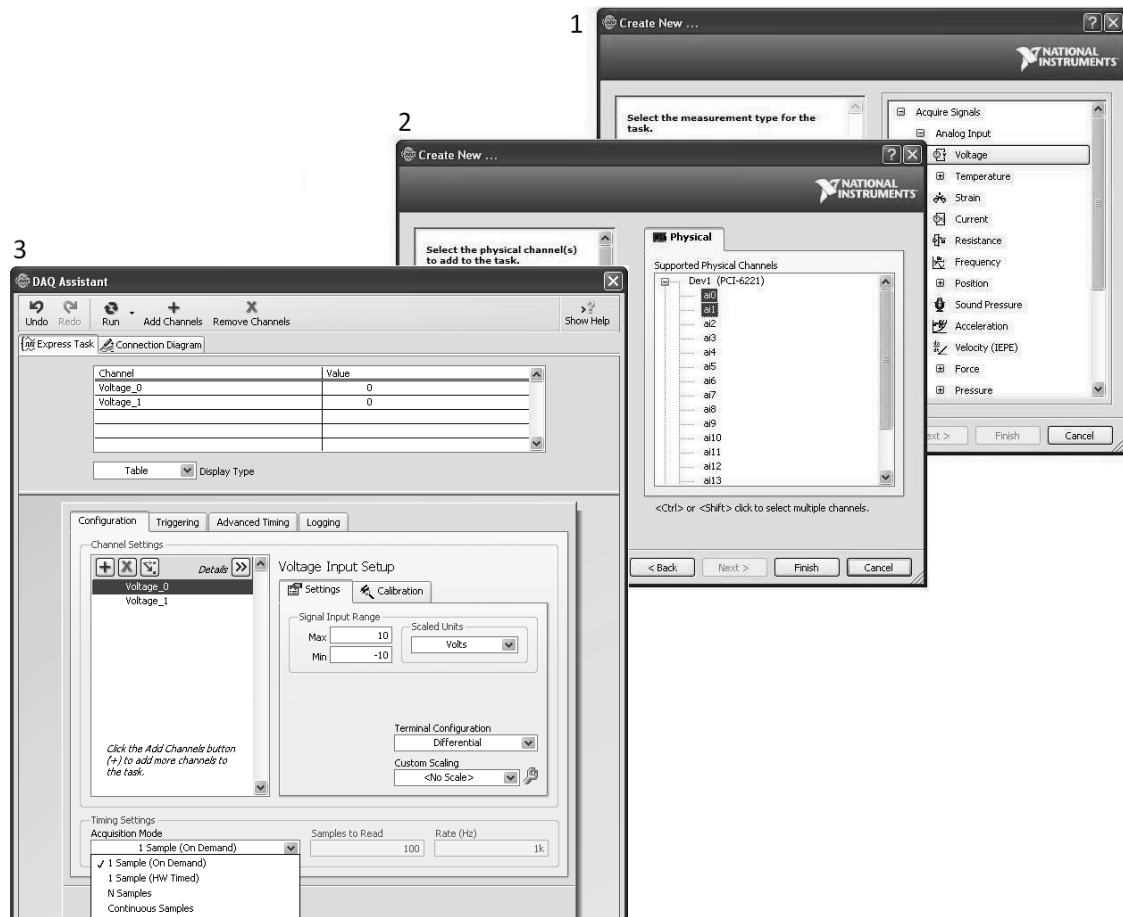

Figure 1.4.4 Using the DAQ Assistant to configure an analog input measurement task
The DAQ Assistant guides the user through a series of windows to configure the data acquisition task as shown for an analog input measurement task in Fig. 1.4.4. The DAQ
Assistant automatically launches when placed in the block diagram. The “Create New...” window sets up the measurement type for the data acquisition task. You select if the data will be acquired or generated for the measurement type (this view is not shown in Fig. 1.4.4). If you expand the list, you can see that analog, digital, and counter modes are available for both “acquire” and “generate.” By further expanding the list, you can see what types of measurements are supported for each mode. For example, the different types of analog input measurements are shown in the first view of Fig. 1.4.4. Once you select the type of measurement you want, for example, a voltage analog input measurement was selected in Fig. 1.4.4, the DAQ Assistant then lists the channels that are available for that type of measurement based on the DAQ board in your computer. This is the second view in Fig. 1.4.4. After you select the channel(s) that you want, a DAQ Assistant window opens, as shown in the third view of Fig. 1.4.4, which allows you to configure the channel(s).
7. Click on “Acquire Signals,” “Analog Input,” and “Voltage” as shown in Fig. 1.4.4 to create a measurement task that can sample a continuously varying voltage signal.